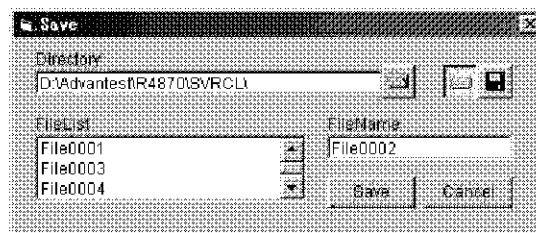

Figure 2-16 Save Dialog Box
1. Select **File** in the main menu. Then, select **Save...** in the drop down menu. The Save dialog box is displayed (see Figure 2-16).